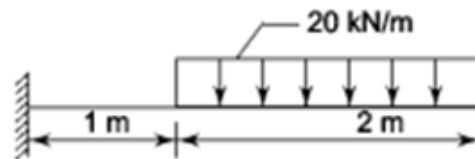

Figure 3
- (b) A cantilever 3 m long carries a UD load of 20 kN/m for a length of 2 m from the free end as shown in Figure 3. Calculate the values of slope and deflection at the free end, if $E = 200$ GN/m² and $Z = 5000$ cm⁴.